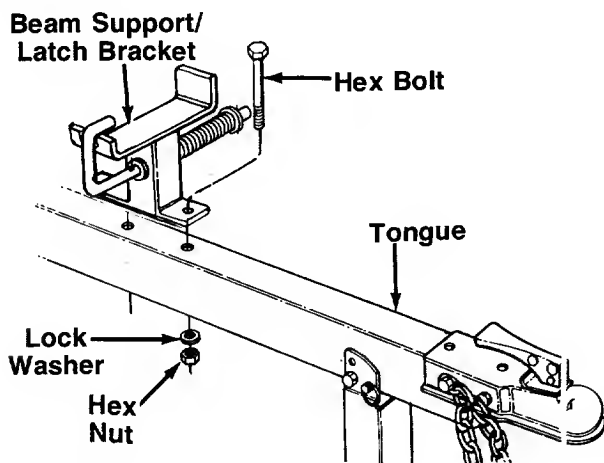

FIGURE 6.
2. Place the beam support/latch bracket on the tongue as shown in figure 6. Secure with hex bolts, lock washers and hex nuts just removed. Tighten securely.